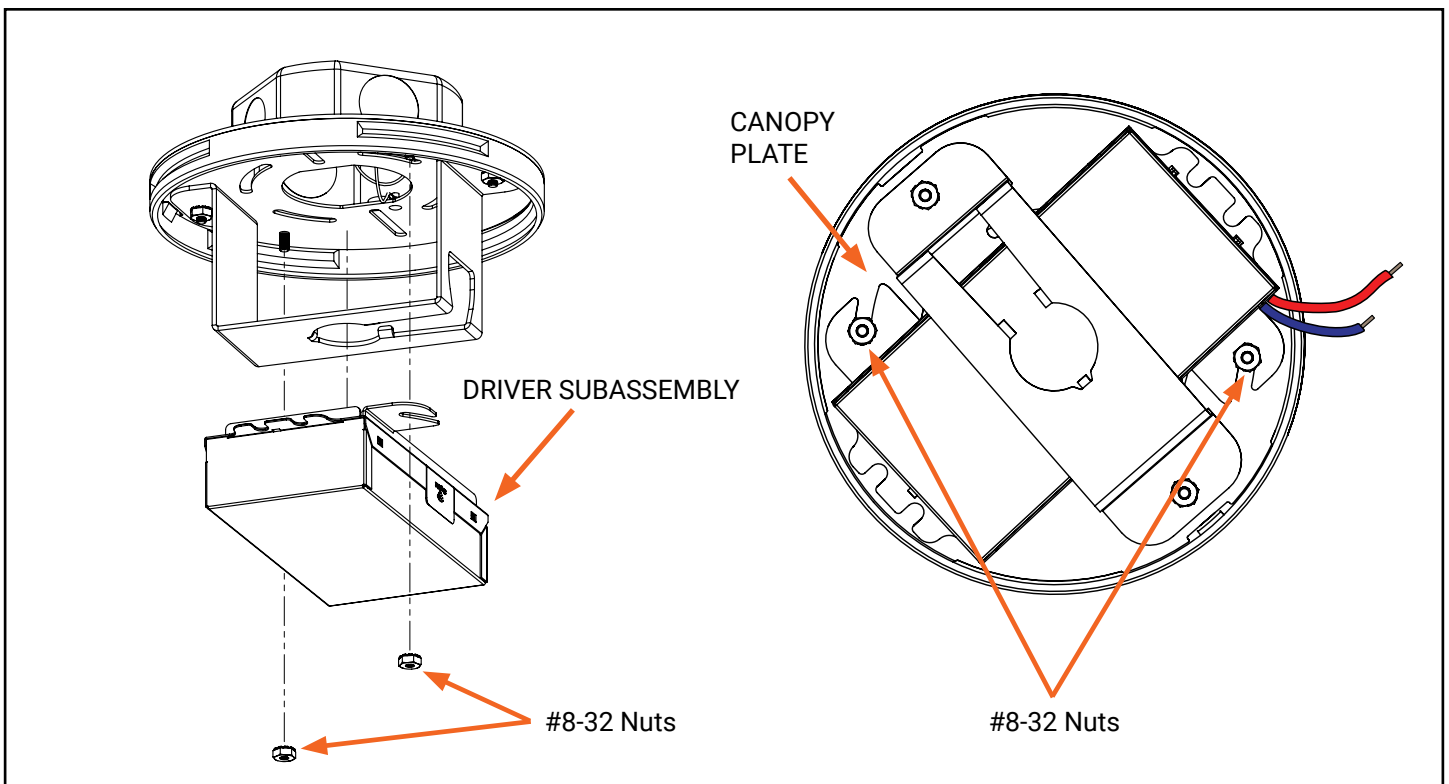

Figure 27
10. Reinstall the driver subassembly by aligning with studs and rotate Clockwise. Secure with two **#8-32 nuts (G)**. Make sure wires do not interfere with assembly while rotating. (Figure 27)